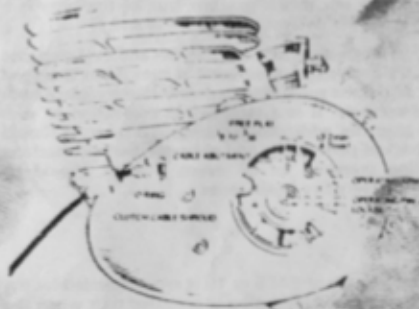

Fig. 31 Clutch thrust adjustment
- 6 Fit the locknut - do not tighten. Use a box spanner and screwdriver to adjust until there is $\frac{1}{8}$ in. (4.7 mm) free play on the scroll arm (see Fig. 31.) Secure the locknut.
- 6 Connect the cable nipple to the operating arm. (See Fig. 31)
- 2 Check adjustment at the clutch operating pin with the cable adjustment slackened right off. As shown in Fig. 31 it should be possible to rotate the operating lever to and fro for $\frac{1}{8}$ in. (4.7 mm)